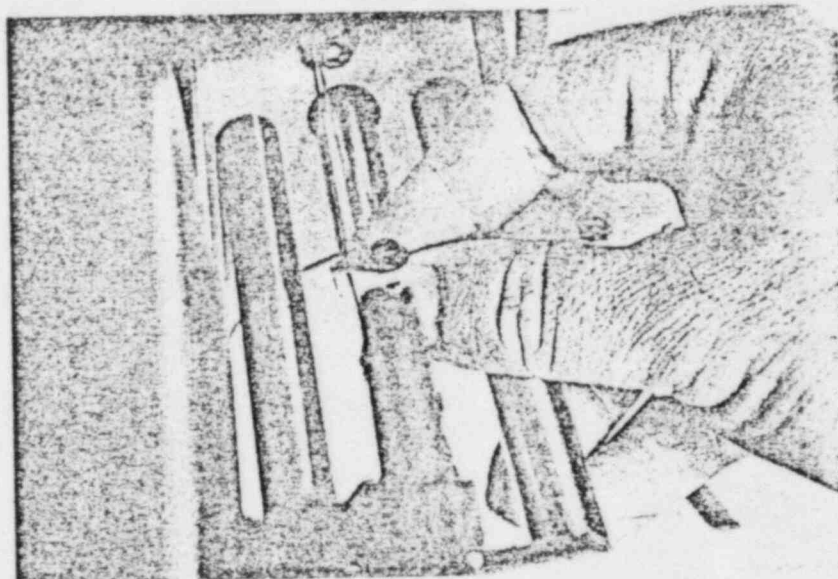

Figure 14. Compression of the spirometer to "O" volume by gently pushing the center rod completely in.
**5.1.1** With the Evacuate/Operate valve in the Operate position and the Head valve in the "Xenon Rebreathing" position, gently compress the spirometer to "O" volume by pushing in the center rod connected to cable driven potentiometer. (See Figure 14.) With the rod fully in, the volume meter should read  $0 \pm 0.5$  liters.